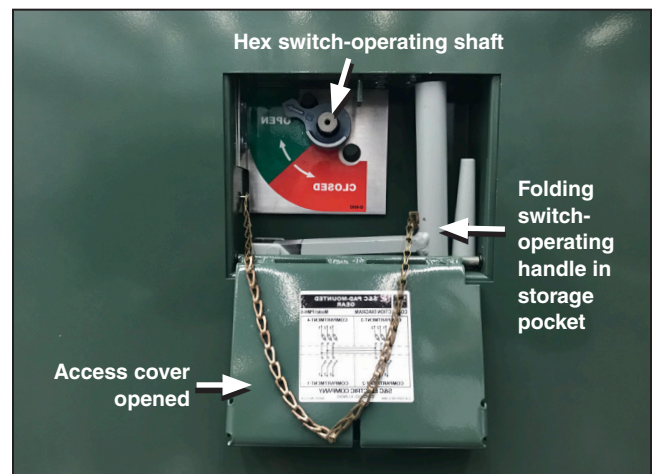

Figure 10. The access cover door opened.
- STEP 2.** Remove the folding switch-operating handle from its storage pocket behind the access cover. Unfold the handle until it is latched and slide it onto the hex switch-operating shaft. See Figure 10.